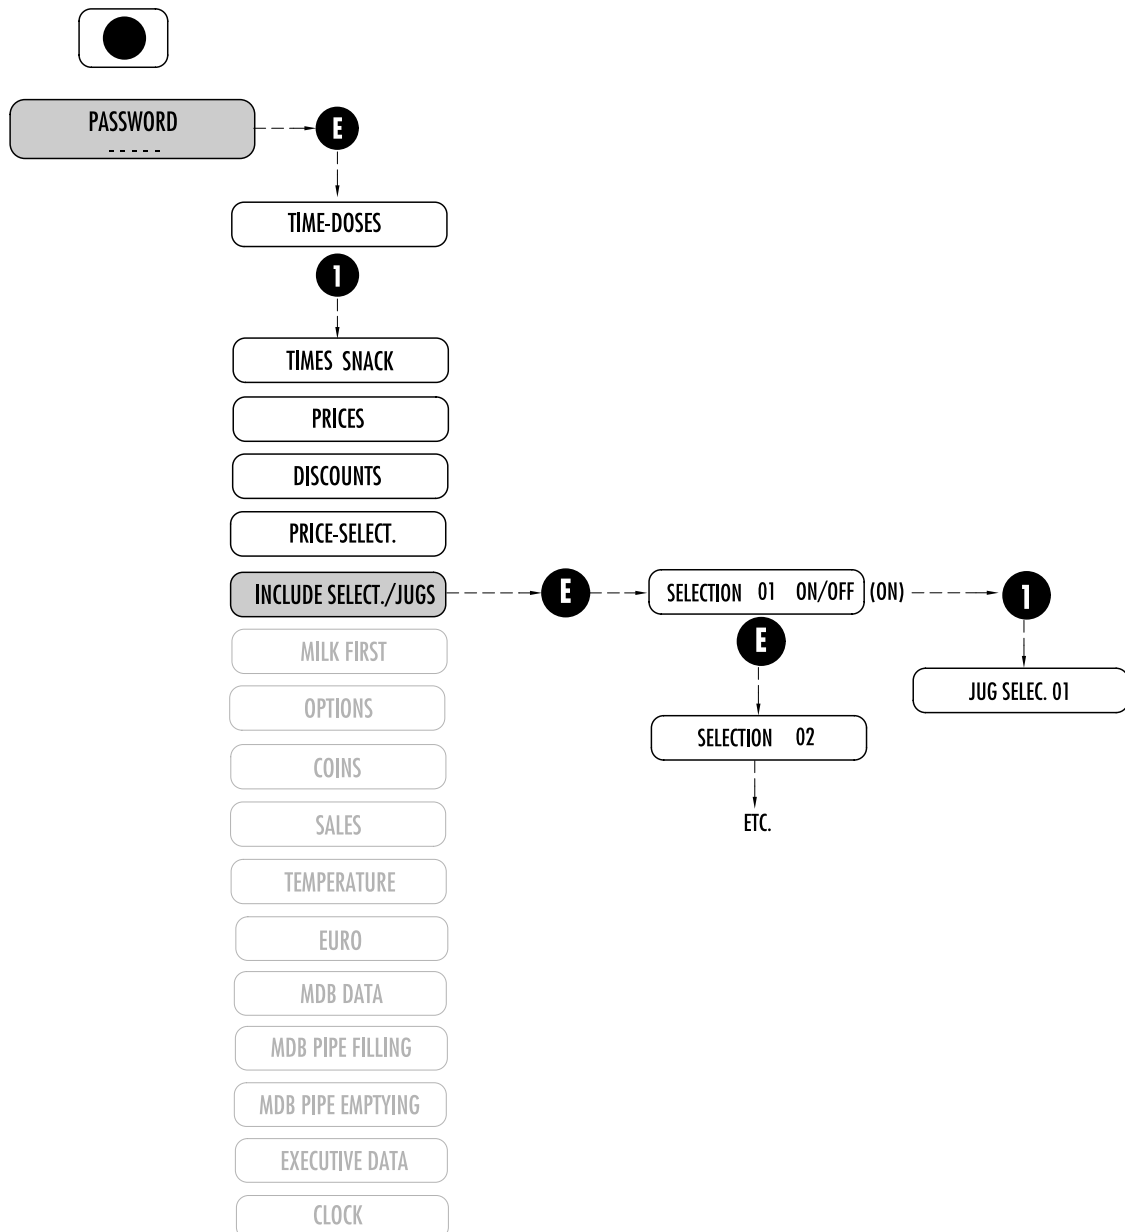

Fig. 7.9
7.2.6 INCLUDE -SELECTIONS/JUGS (FIG.7.9)